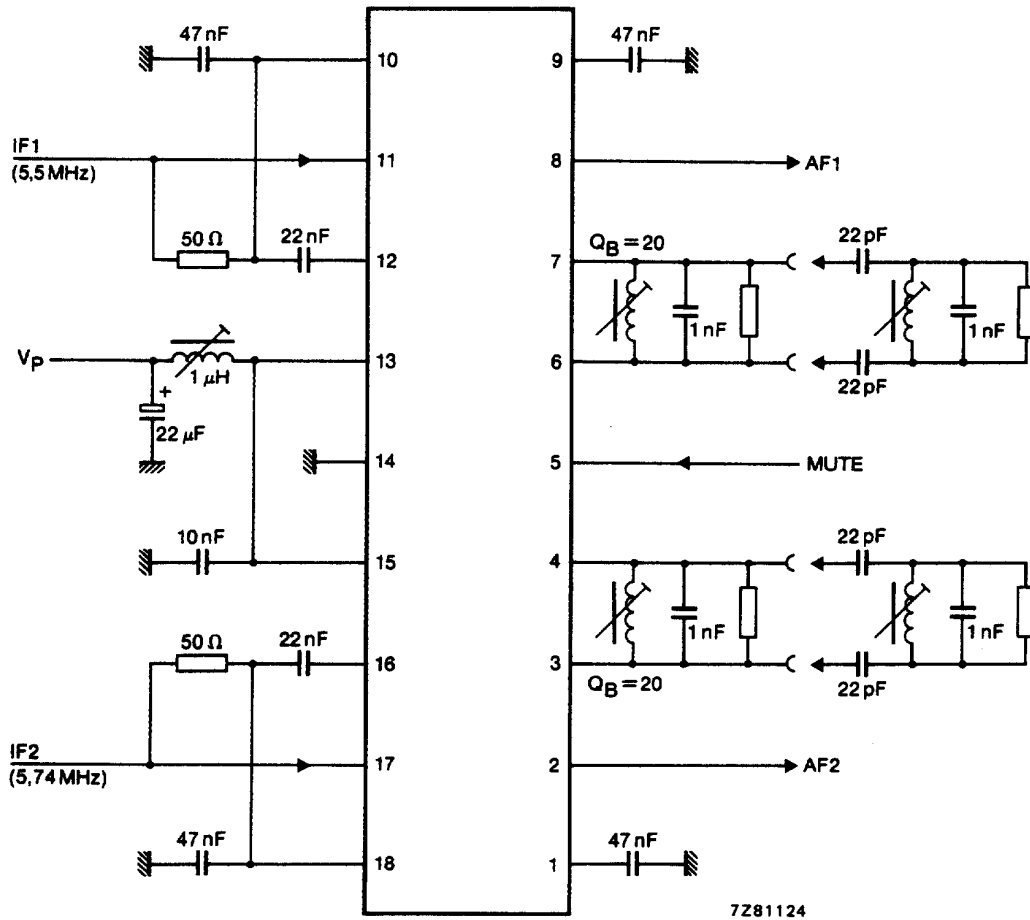

Fig.3 Test and application circuit.
see test circuit Fig.3, voltages with respect to ground (pin 14), unless otherwise specified.
- THD < 0,1% requires a double tuned demodulator circuit ($Q_L = 20$). With a single tuned circuit a THD of < 0,5% is possible (see Fig.1 and Fig.3).